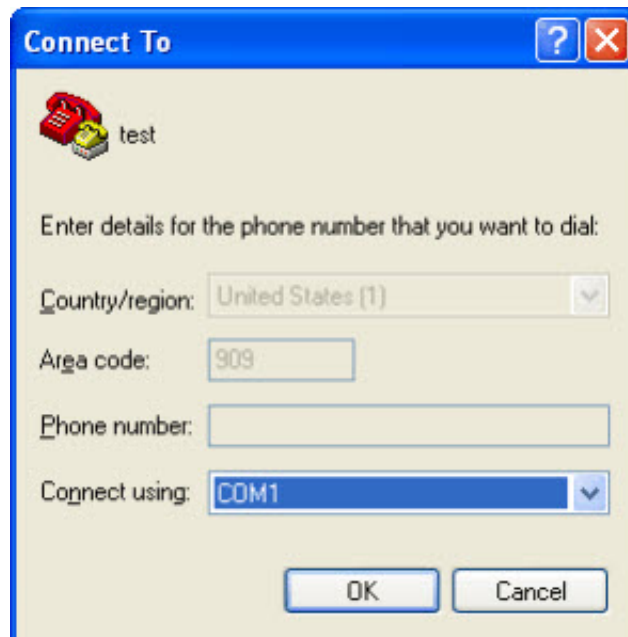

Figure 3-2 Connect To window
4. The **Connect To** window appears prompting for a connection, as shown in Figure 3-2 on page 3-2. Click the **Menu Arrow** under **Connect Using** to view the choices.